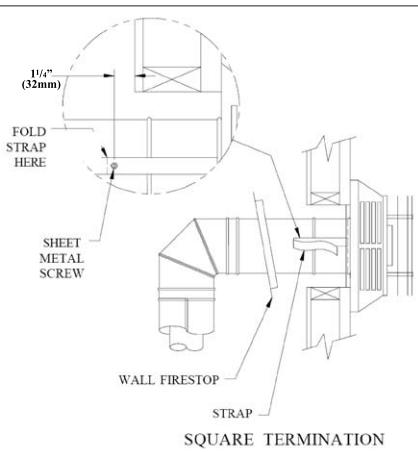

Figure 38: Installation of Vent Pipe to Termination.
Step 6. Slide the appliance and vent assembly towards the wall, carefully inserting the vent pipe into the vent cap assembly. It is important that the vent pipe extend into the vent cap sufficient distance so as to result in a minimum pipe overlap of $1\frac{1}{4}$ inches (32mm). Secure the connection between the vent pipe and the vent cap. For square caps, attach the two (2) sheet metal strips extending from the vent cap assembly into the outer wall of the vent pipe. Use the two sheet metal screws provided to connect the sheet metal strips to the pipe section. For round caps, use three sheet metal screws and attach cap to pipe section (see Figure 38).